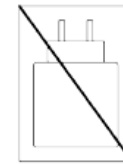

Figure 2
- 2 Plug the other end of the USB cable into a USB-C port on your computer or into a USB-C 5V wall charger (not included, see Figure 2).